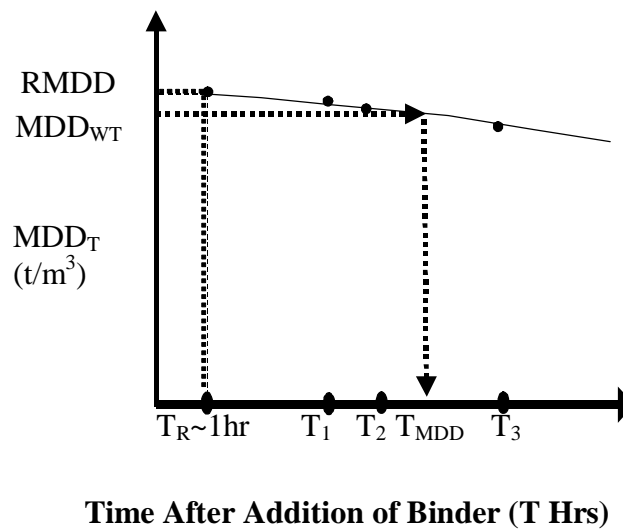

Figure 1 - Working Time for Maximum Dry Density
- Plot the four results as the points $(T_R, RMDD)$, (T_1, MDD_1) , (T_2, MDD_2) and (T_3, MDD_3) as shown in Figure 1.